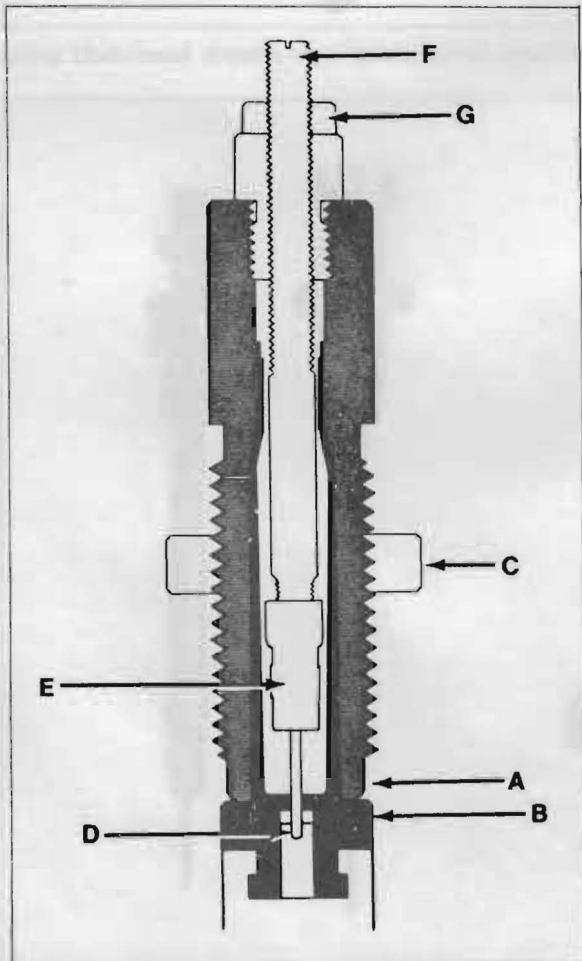

FIGURE 18 — Cross-section of a resizing die. See text for alphabetical reference points. (Courtesy RCBS)
A sizing die corresponds to the chamber of a gun, the shellholder to the bolt face. Thus, when the case is "chambered" into the die, and the shellholder is at the proper tension against the die base (the same tension felt when a bolt is closed against a chambered cartridge), the case is resized and headspaced to near-standard dimensions (see Figure 18). The case neck and shoulder of the bottle-neck case are "resized" to the desired dimensions when the handle and ram make their full cycle. The die must first be adjusted in the press to the appropriate depth so that the resized case will fit the chamber for which it is intended. Bear in mind that cases from different rifles will vary in chamber dimensions. Prior to reloading, the newly re-formed case should be tried in the rifle in which it will be fired. The bolt should close freely with very slight resistance. Once the desired slight closure is attained, the die is locked in position.
The first reloading operation is accomplished as the case rises in the sizing die. The decapping pin (D in Figure 18), extending from the bottom of the expander balls, forces the spent primer out of its pocket, down through the hole in the center of the shellholder, and into the channel through the axis of the ram. It then drops into some sort of primer catcher.
For full-length resizing, first press the handle down until the ram (with appropriate shellholder) rises to its maximum height. Refer again to Figure 18. Now screw the sizer die down into the press until the base of the die (A) bears firmly against the shellholder (B). Next raise the press handle slightly, just enough to take tension off the die base, and screw the sizer die down an additional one-eighth turn. Tighten down the lock ring (C) with the integral set screw. Test for tension. As the ram is raised, you should feel slight tension, or a click, as you do when closing the bolt on a chambered round.